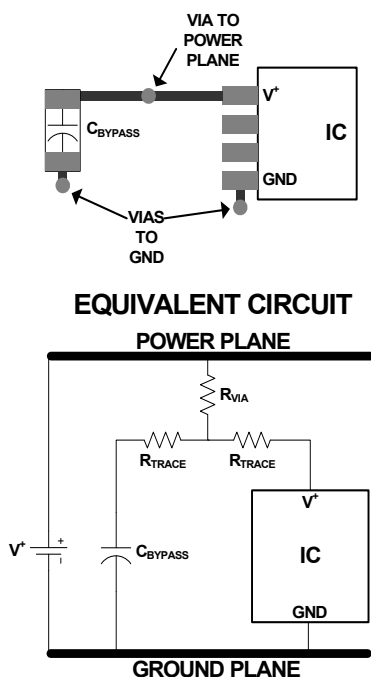
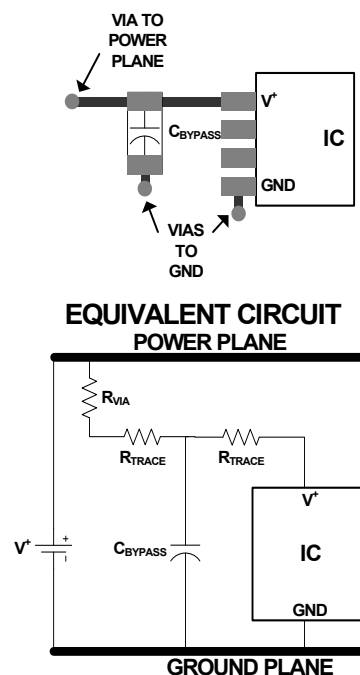

FIGURE 12. SUB-OPTIMAL BYPASS CAPACITOR LAYOUT
FIGURE 13. OPTIMAL ("T") BYPASS CAPACITOR LAYOUT
- Ideally each supply should be bypassed to ground with a 0.1 μ F capacitor. Minimize trace length and vias to minimize inductance and maximize noise rejection. Figure 12 demonstrates a common but non-ideal PCB layout and its equivalent circuit. The additional trace resistance between the bypass capacitor and the power supply/IC reduces its effectiveness. Figure 13 demonstrates a better layout. In this case there is still series trace resistance (it is impossible to completely eliminate it), but now it is being put to good use, as part of a "T" filter, attenuating supply noise before it gets to the IC, and reducing the amount of IC-generated noise that gets injected into the supply. Follow the good supply bypassing rules shown in Figure 13 to the extent possible.